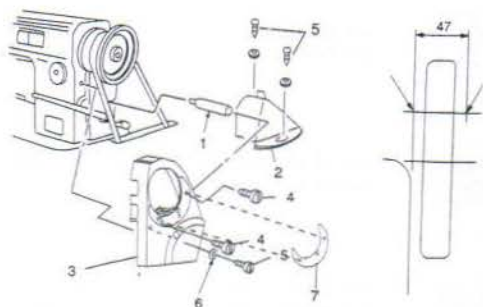

Fig.23
- 1) When sewing heavy-weight materials, move thread guide ① to the left in direction A to increase the length of thread pulled out by the thread take-up.
- 2) When sewing light-weight materials, move thread guide ① to the right in direction B to decrease the length of thread pulled out by the thread take-up.
- 3) Normally, thread guide ① is positioned in a way that marker line C is aligned with the center of the screw.
17. INSTALLING THE BELT COVER (Fig.23, 24, 25)